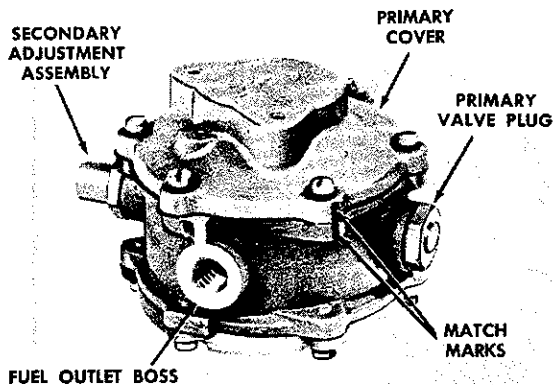

FIGURE 2
18. Turn throttle stop screw to right to open throttle far enough for a fast idle. Fig. 2.
1. Place regulator on bench with primary side up and fuel outlet boss toward operator. Figure 2.
2. Scribe a match mark from primary diaphragm cover to regulator body casting so that upon reassembly these parts can be replaced in their original position. Figure 2.